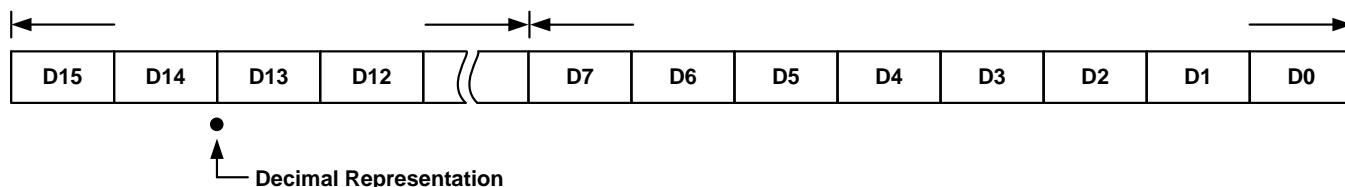

Figure 27. Binary Representation Of Gain Correction Factor
5. **LUT Data Entry:** Each GCF needs to be converted from decimal to a 16 bit binary word representing a decimal number between 0 and 4. An example illustrating this binary representation of the decimal number is shown in Figure 27. The conversion equation that scales the GCF into the 16 bit binary GCF_{BINARY} is shown in Equation 2. Once the conversion has been calculated for each temperature the values are programmed
into the appropriate registers in the LUT. The MSB of the LUT value consists of bits D15 to D8 as shown in Figure 27, the LSB are bits D7 to D0.